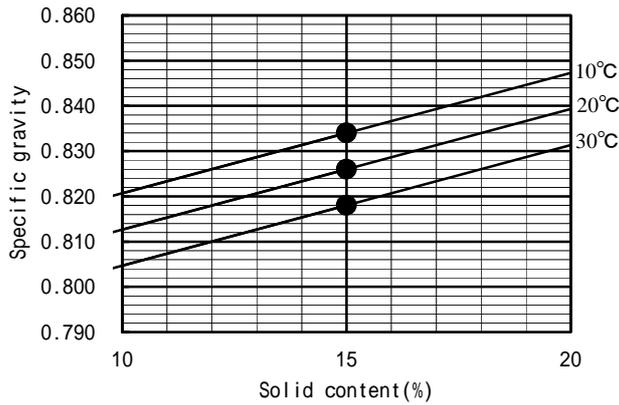

Fig.3 Relation between specific gravity of EC-19S-10 and its solid content.
- When the flux becomes dense, dilute it with the Thinner #4520 by referring to Fig.3,4.